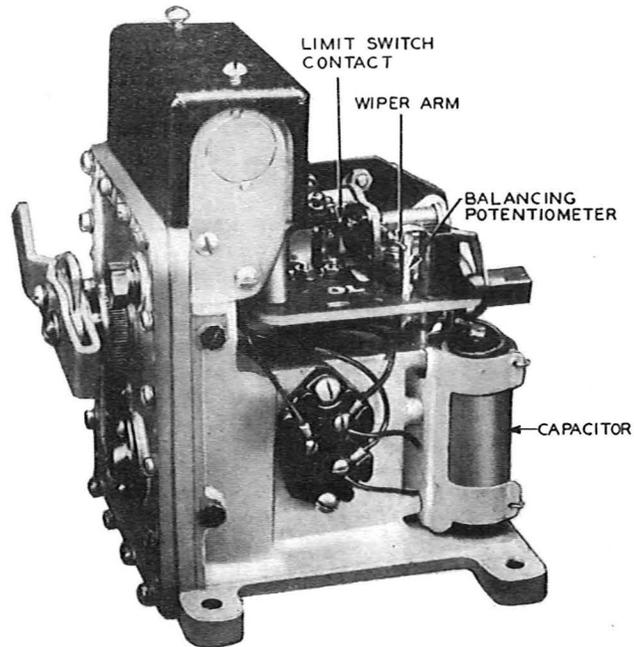
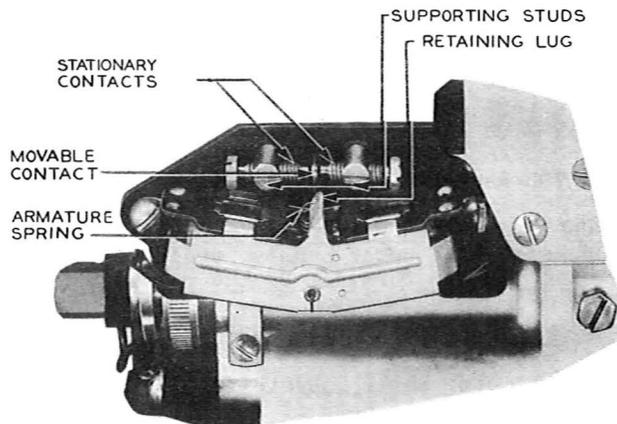

Fig. 4 - M904E-type Shutter Motor - Cover Removed
Fig. 5 - Balancing Relay - Shown in Neutral Position
1.09 The M904E-type shutter motor (see Figs. 4 and 5) is used to operate a shutter which is intended to be held in any position from fully opened to fully closed as required. It is controlled by the type T915C controller.
(1) If the motor fails to open or close its shutter, as required, look for open leads, short circuits, or poor contacts in the motor and controller. If the operation in intermediate positions of the shutter is erratic, look for poor contact of the wiper arms of the balancing potentiometer in the motor or controller. See Fig. 4. If hunting is experienced, see that the balancing relay in the motor is meeting its requirement. See Fig. 5.
(2) Maintain the contacts of the limit switches in accordance with 3.18 which applies to the maintaining switch of the M204A-type motor.
(3) Clean the contact surfaces of the balancing potentiometer and its wiper arm with a cleaning cloth moistened with petroleum spirits, followed by a dry cloth.
(4) Adjust the contact pressure of the wiper arm by forming the flat part of the arm, as required. Use the KS-6015 duck-bill pliers.
(5) Clean the contacts of the balancing relay with a cleaning cloth moistened with petroleum spirits, followed by a dry cloth. With the burnishing tool, reduce build-ups as required to insure satisfactory operation.
(6) If necessary, bring the movable contact to its required position by adjusting the retaining lug with the duck-bill pliers. Avoid changing the tension of the armature spring.
(7) To measure the contact separation, operate the relay by hand and apply the gauge between the open contacts. Adjust by using the No. 388A tool to turn the contact supporting screws as required. See that they project equally from the supporting studs.